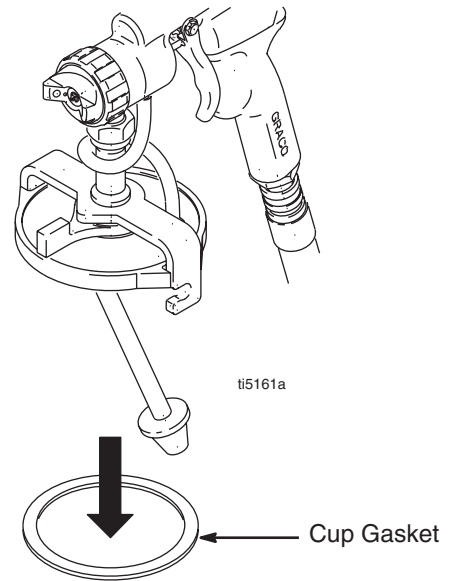

FIG. 26
- 3 Press new gasket into lid slot. Fig. 26.